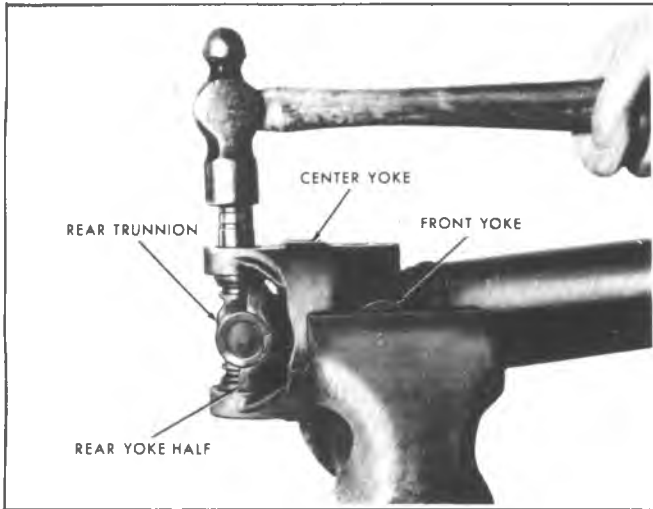

Fig. 4A-20--Driving Out Bearing Cups
3. Place propeller shaft in vice as shown in figure 4A-20. Drive one rear trunnion bearing cap from center yoke as shown in figure 4A-20 until it protrudes approximately 9.52 mm (3/8").